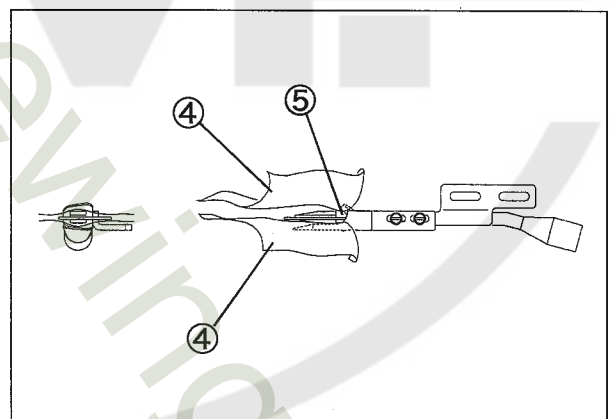

Fig. 17
(2) Set the material④ as shown in Fig. 17.